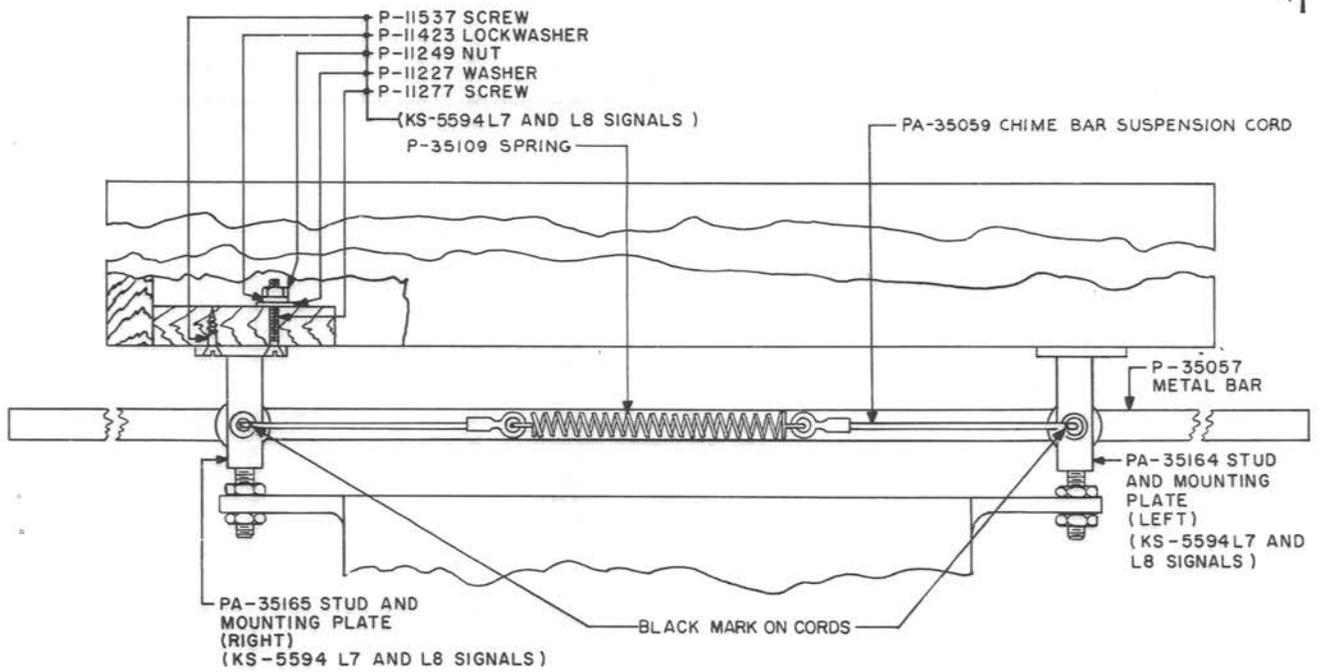

Fig. 6 - KS-5594, L1, L2, L7, and L8 Signals - Bar Harp
**3.09 *Bar Harp*** (Fig. 6)
**3.15 Bar Harp (Fig. 6 and 7)**
To replace an extension spring and suspension cord, remove the screws holding the anchor plates using the 3-inch C screwdriver. Untie the knot in the cords and remove the cords and spring. Hook the loop of a new spring to the terminals on the new cords. Insert the ends of the cords through the holes in the rear studs, washers, and bar. Pull the cord so that the spots on the cord, of the appropriate color as indicated in Fig. 6 or 7, are at the entrance of the holes in the studs. Tie the cords with a double knot against the front studs. Reassemble the anchor plates and lockwashers and securely tighten the screws.